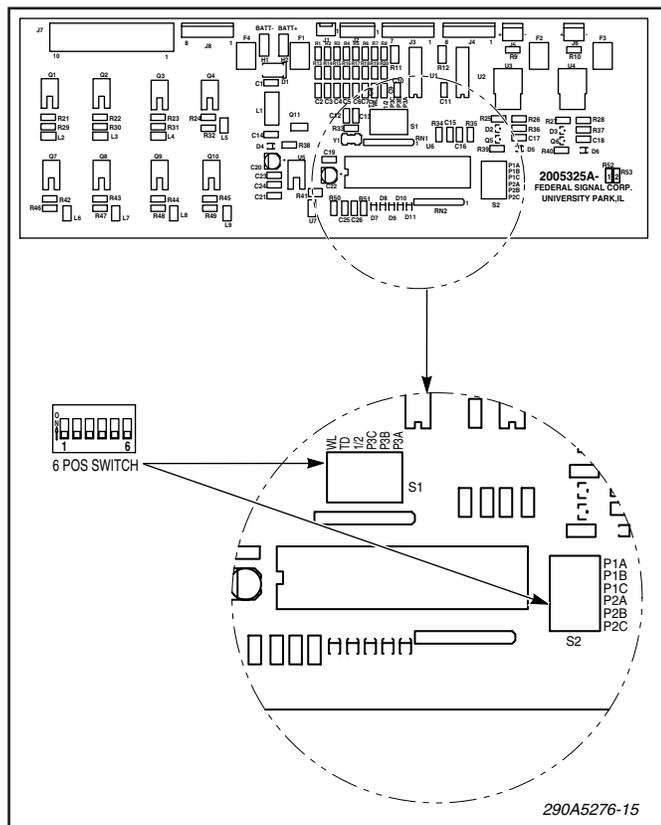

Figure 5-2.
The Smart Pods are programmable on two levels. First, each of the program inputs, i.e., P1, P2, and P3, can be set to do one of eight available patterns. See figure 5-2. These patterns are selected using dip switches located on the Smart Pod Controller board. Refer to tables 1 through 3 shown below. See Section VI Service and Maintenance for board access procedures. Once patterns are chosen for each of the program inputs, then the program inputs are assigned to a slide switch position.
- Using Table 3 and figure 5-2, set DIP switch P3B to ON. This sets P3 to 175FPM Rotate.